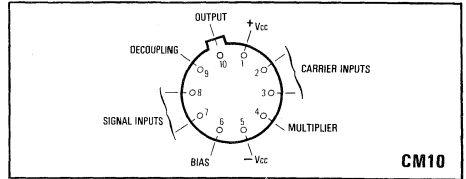

Fig. 1 Pin connections (bottom)
- The gain may be increased from the value of Fig. 1 (26dB nominal) by increasing  $R_C$ , the gain increase being given by: